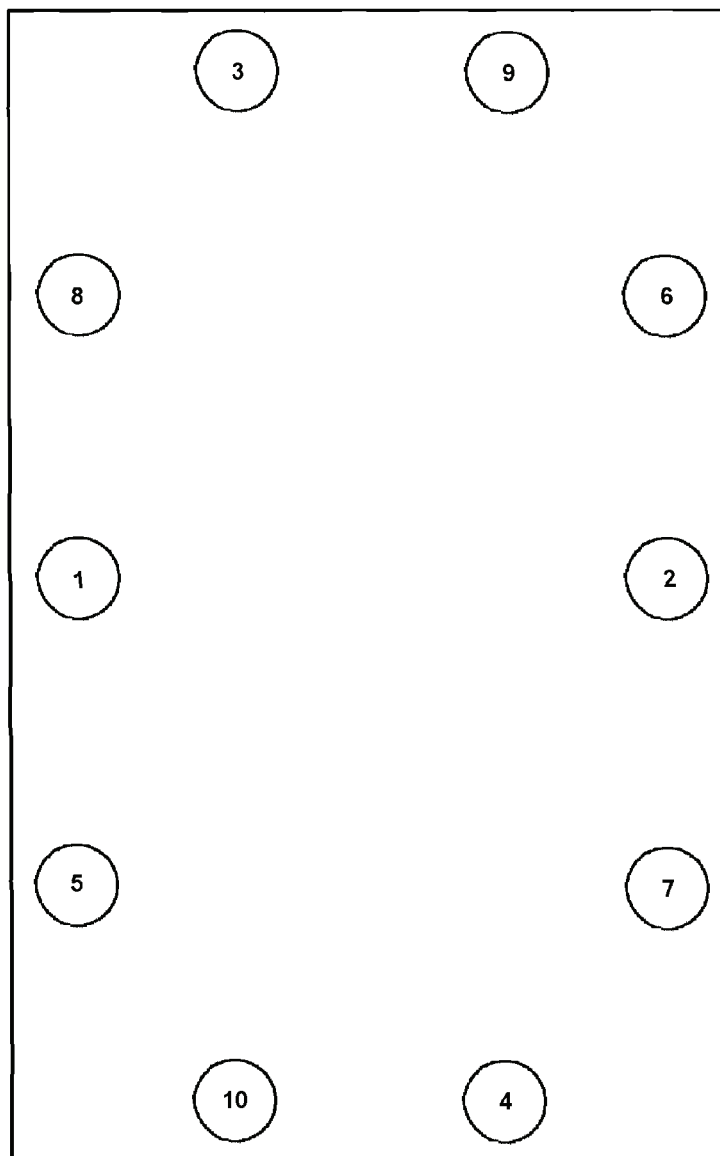
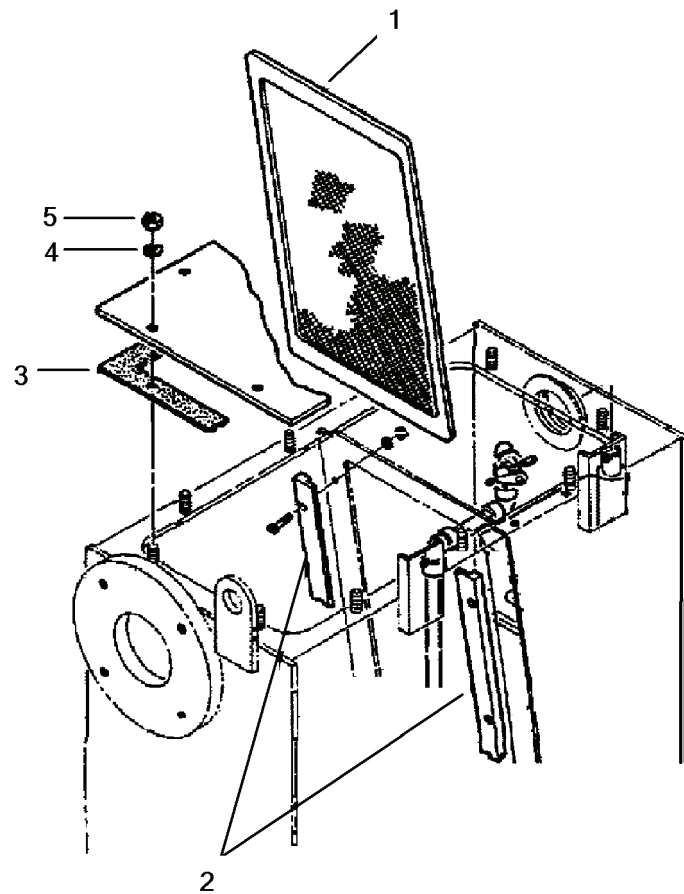

Figure 2-14. Treatment Tank Cover Torque Sequence.
Figure 2-15. Screen Assembly.
2-15. Screen Assembly and Tank Top Group. (Figure 2-14 and 2-15)
- a. Remove the treatment tank cover and gasket. Inspect gasket for cracks, tears, and replace if damaged (3, Figure 2-15).
- (1) Remove the ten capscrews (5) and washers (4) from the tank cover.
- (2) Lift the cover and cover gasket (3) from tank. Discard gasket.
- b. Remove reduction/retention screen assembly (1) by pulling up on the screen frame. The frame slides between the guides (2).
- a. Insert backwash screen assembly (1, Figure 2-15) into place by sliding it down between the guides (2, Figure 2-15).
- (1) Ensure gasket surfaces are clean, and install gasket.
- (2) Position the cover and install ten capscrews and washers. Ensure the gasket stays in position when installing the cap screws. Tighten capscrews to 31 ft-lb, using the sequence shown in Figure 2-14.